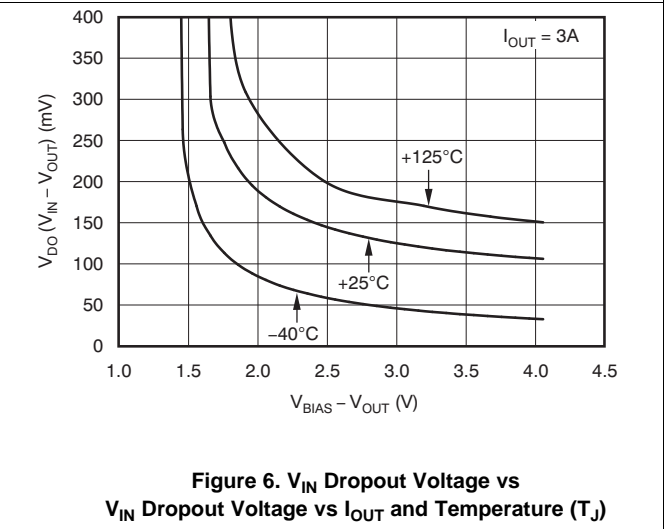
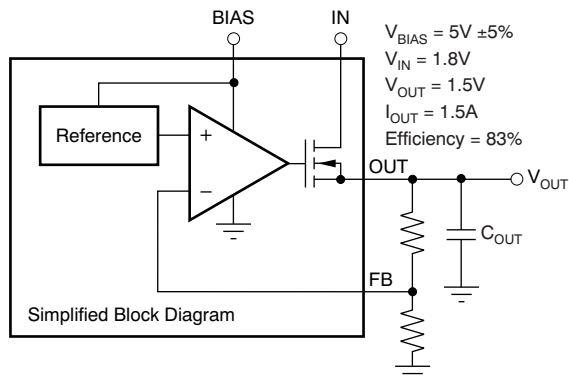

Figure 6. V_{IN} Dropout Voltage vs V_{BIAS} Dropout Voltage vs I_{OUT} and Temperature (T_J)
Figure 23. Typical Application of the TPS74901 Using an Auxiliary Bias Rail
(1) Adjustable devices tested at 0.8 V; resistor tolerance is not considered.
(2) Dropout is defined as the voltage from V_{IN} to V_{OUT} when V_{OUT} is 3% below nominal.
(3) 3.25 V is a test condition of this device and can be adjusted by referring to Figure 6.
There are two different specifications for dropout voltage with the TPS74901. The first specification (see Figure 23) is referred to as $V_{\text{IN Dropout}}$ and is used when an external bias voltage is applied to achieve low dropout. This specification assumes that V_{BIAS} is at least 3.25 V above V_{OUT} , which is the case for V_{BIAS} when powered by a 5-V rail with 5% tolerance and with $V_{\text{OUT}} = 1.5 \text{ V}$ (3.25 V is a test condition of this device and can be adjusted by referring to Figure 6). If V_{BIAS} is higher than $V_{\text{OUT}} + 3.25 \text{ V}$, $V_{\text{IN dropout}}$ is less than specified.